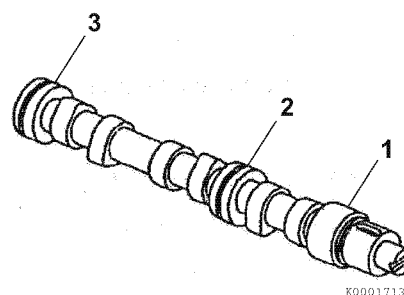

Figure 6-81
4. Measure the diameter of the gear end (**Figure 6-81, (1)**), intermediate (**Figure 6-81, (2)**), and flywheel end (**Figure 6-81, (3)**) bearing journals. Record the measurements. *See Camshaft on page 6-6 for specifications.*